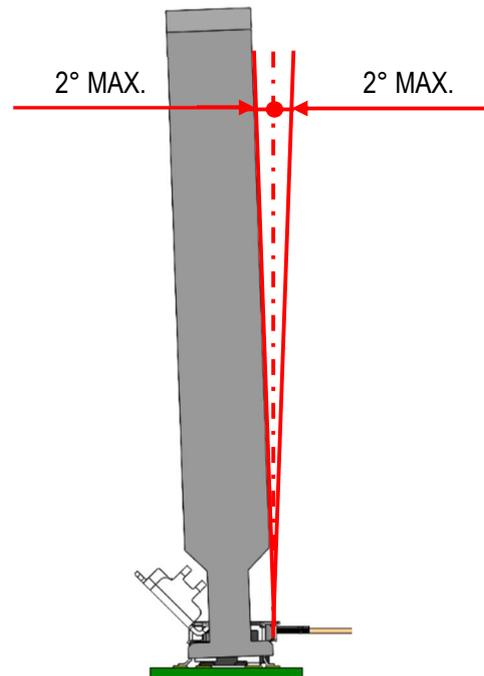

Fig.22 Allowance connector mating angle
- Allowable mating angle is shown in Fig.22. When the jig is lifted up to un-mate the FPC connector, The unmating angle must be within this tolerance.